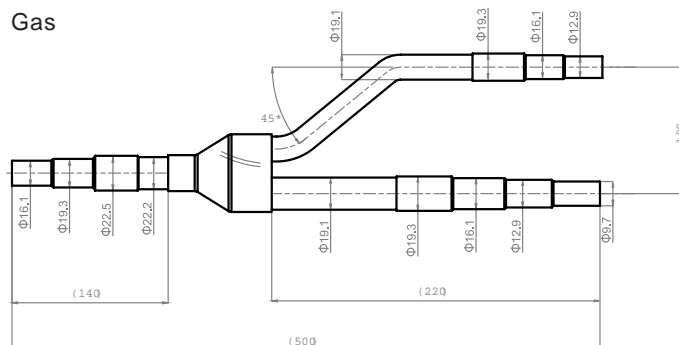

Fig. 1 Refnet joints
2. Use the following recommended refnet joints with multiple connection sizes. See fig. 1. Size of the refnet joint pipes is dependent on the connection of the indoor units. Cut off those unnecessary parts with proper tool when large connection is required.